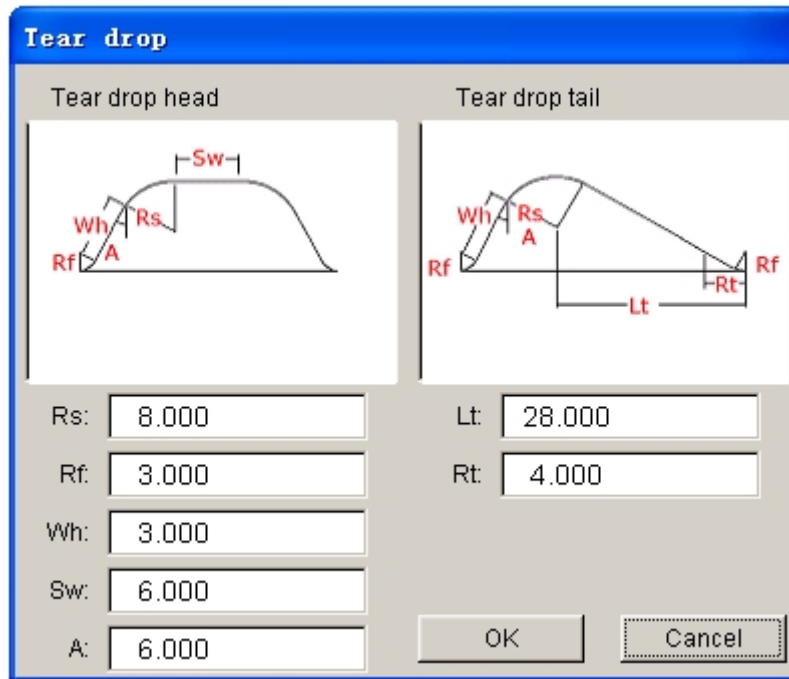

Figure 6.5.12 Parameters for Tear Drop
3. TEAR DROP (DRAW BAR WITHOUT MAIN BODY). Figure 6.5.12 shows the parameters in the dialog box.